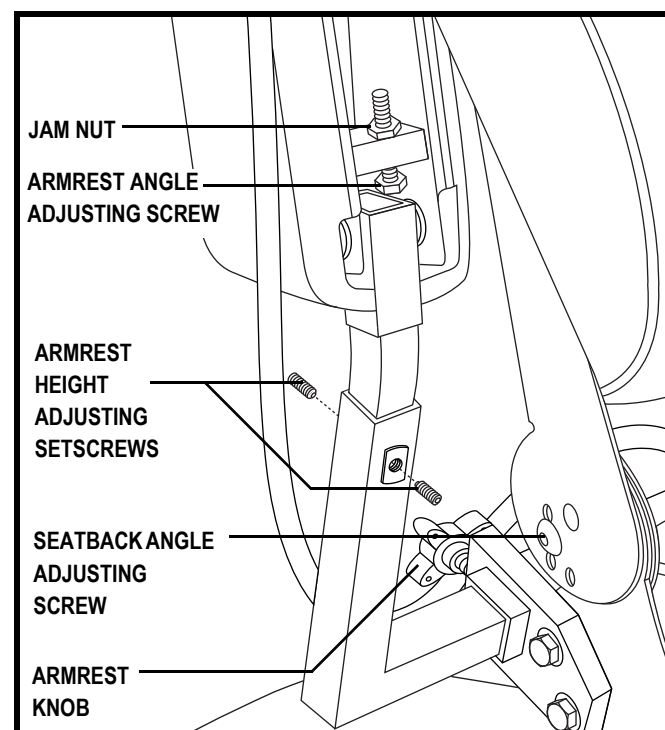

Figure 23. Seatback Angle Adjustment
1. Remove the adjusting screws on both seat hinges. **See figure 23.**
1. Locate the two armrest knobs on each side of the armrest receiver bracket. See figure 23.
2. Loosen the locking nut. See figure 23.
2. Raise or lower the armrest to the desired height. See figure 23.